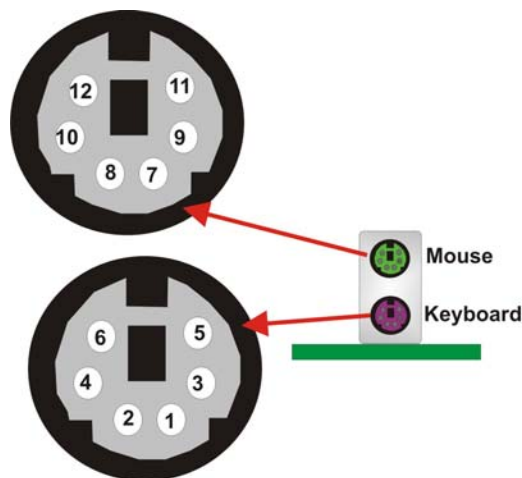

Figure 3-25: Dual PS/2 Pinouts and Configuration
**CN Pinouts:** See Figure 3-25, Table 3-28 and Table 3-29